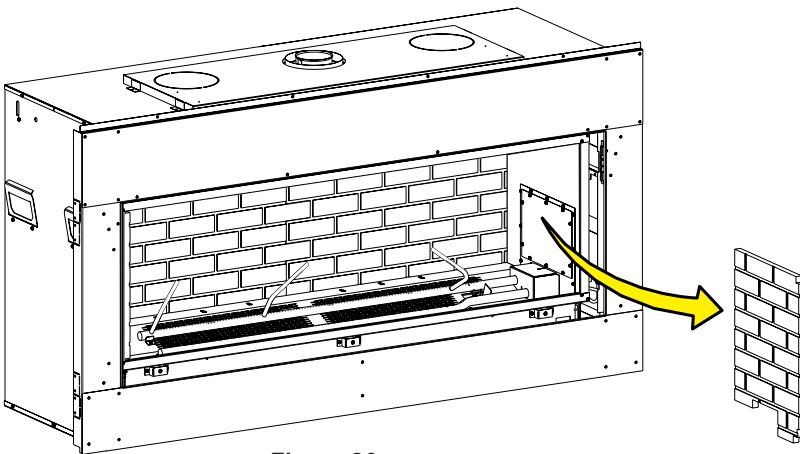

Figure 26
3. Remove right liner panel. **See Figure 26.**